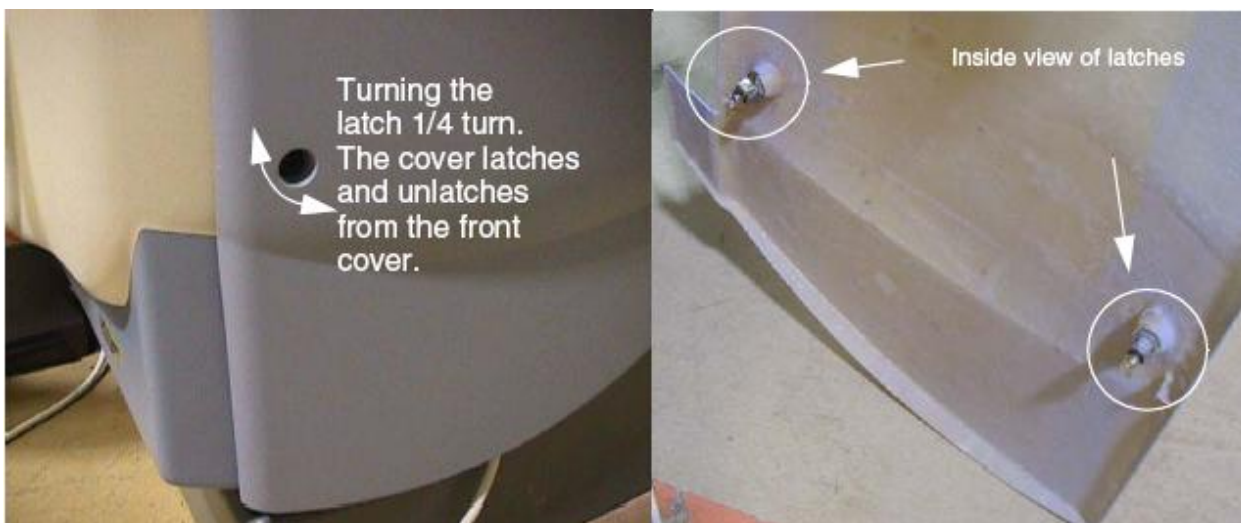

FIGURE 1-1 SIDE COVER LATCHES
3. Use an 8mm Hex wrench to unlatch the side cover from the front cover. See Figure 1-1.